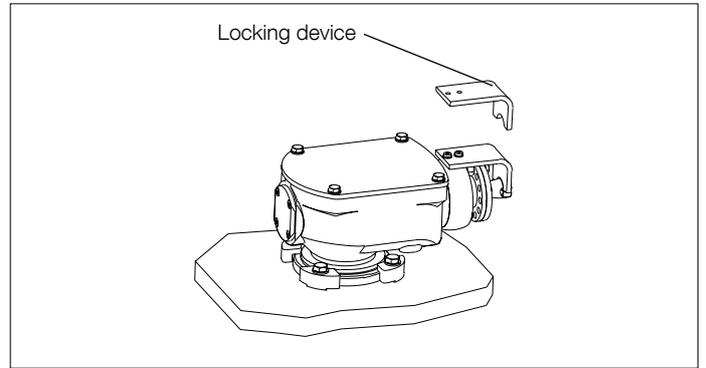

Fig. 36. Locking device, single-unit tap-changer.
5. Remove the locking device on the bevel gear of the diverter switch housing by loosening the two set screws; see Fig. 36.